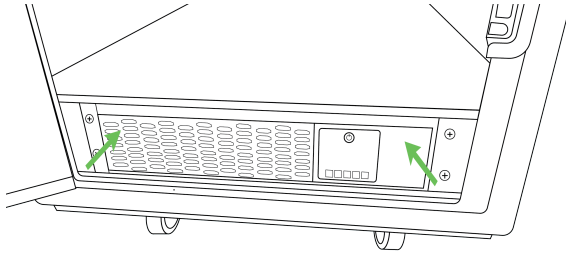

Figure 6-12. Installing UPS face plate
7. Align the UPS face plate on the front of the UPS and apply pressure to both sides of the face plate until it clicks into position (Figure 6-12).